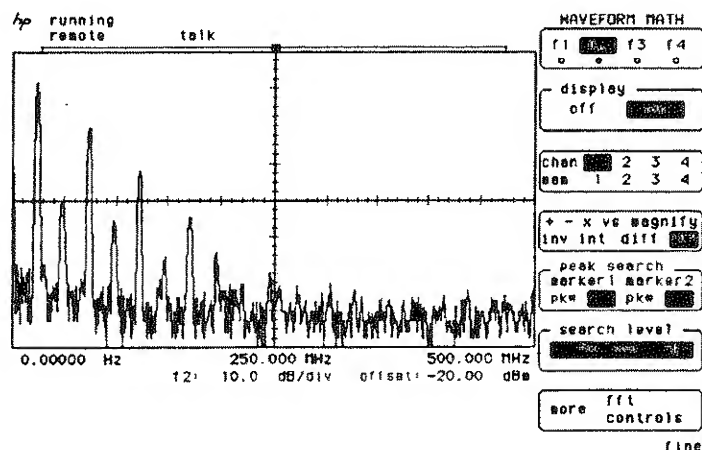

Figure 9-8. FFT Plot of Channel 1 Signal
- Press WFORM MATH to define the function. Select $f2$ and turn the display on. Select the fft operator and $chan 1$ operand. The FFT is plotted on the display as in figure 9-8.